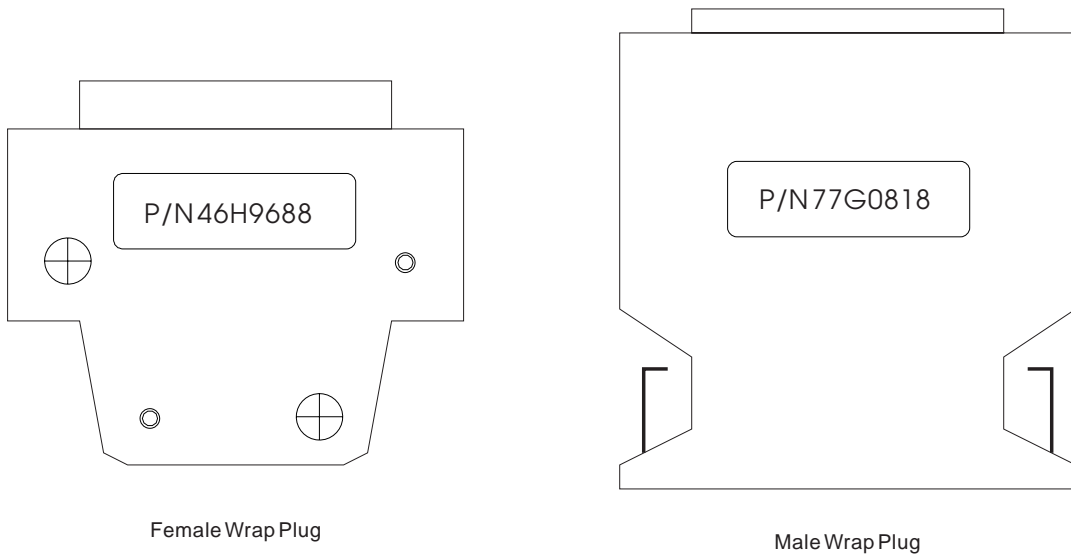

Figure 1-32. SPS Wrap Plugs
- Switch wrap plugs (male 46G5619 and female 46G5620 for HiPS, male 77G0818 and female 46H9688 for SPS). Refer to Figure 1-31 on page 1-299 and Figure 1-32 on page 1-300 for views of these wrap plugs.